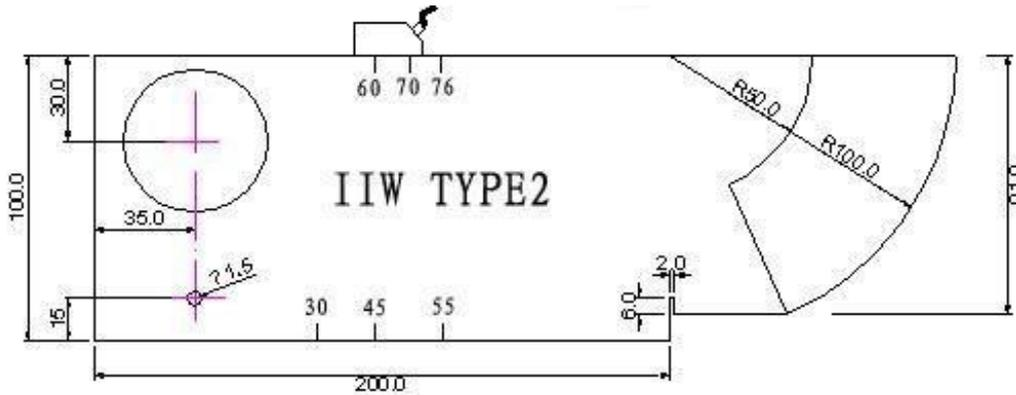

Fig.4.2 ANG ECHO
- (2) By the <Enter > key you can see ANG echo, Then put your probe as fig4.2, Try to find the highest echo of the hole (ϕ 50), then press , you will see ANG=XXX.X.